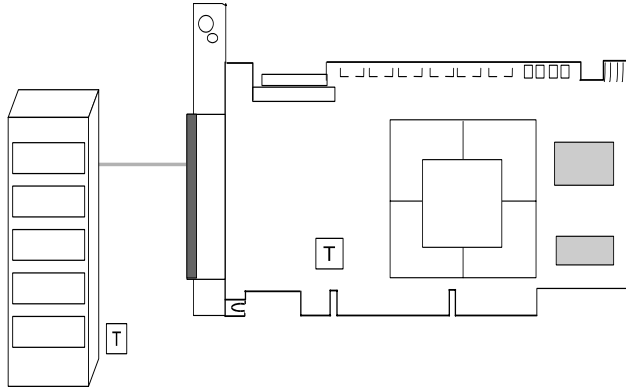

Figure 2-11. Connecting External Disk Drives to the AcceleRAID 170LP
- (b) Connect the SCSI cable from the external SCSI connector on the AcceleRAID 170LP controller to an external drive set or external cabinet enclosure (Figure 2-11).